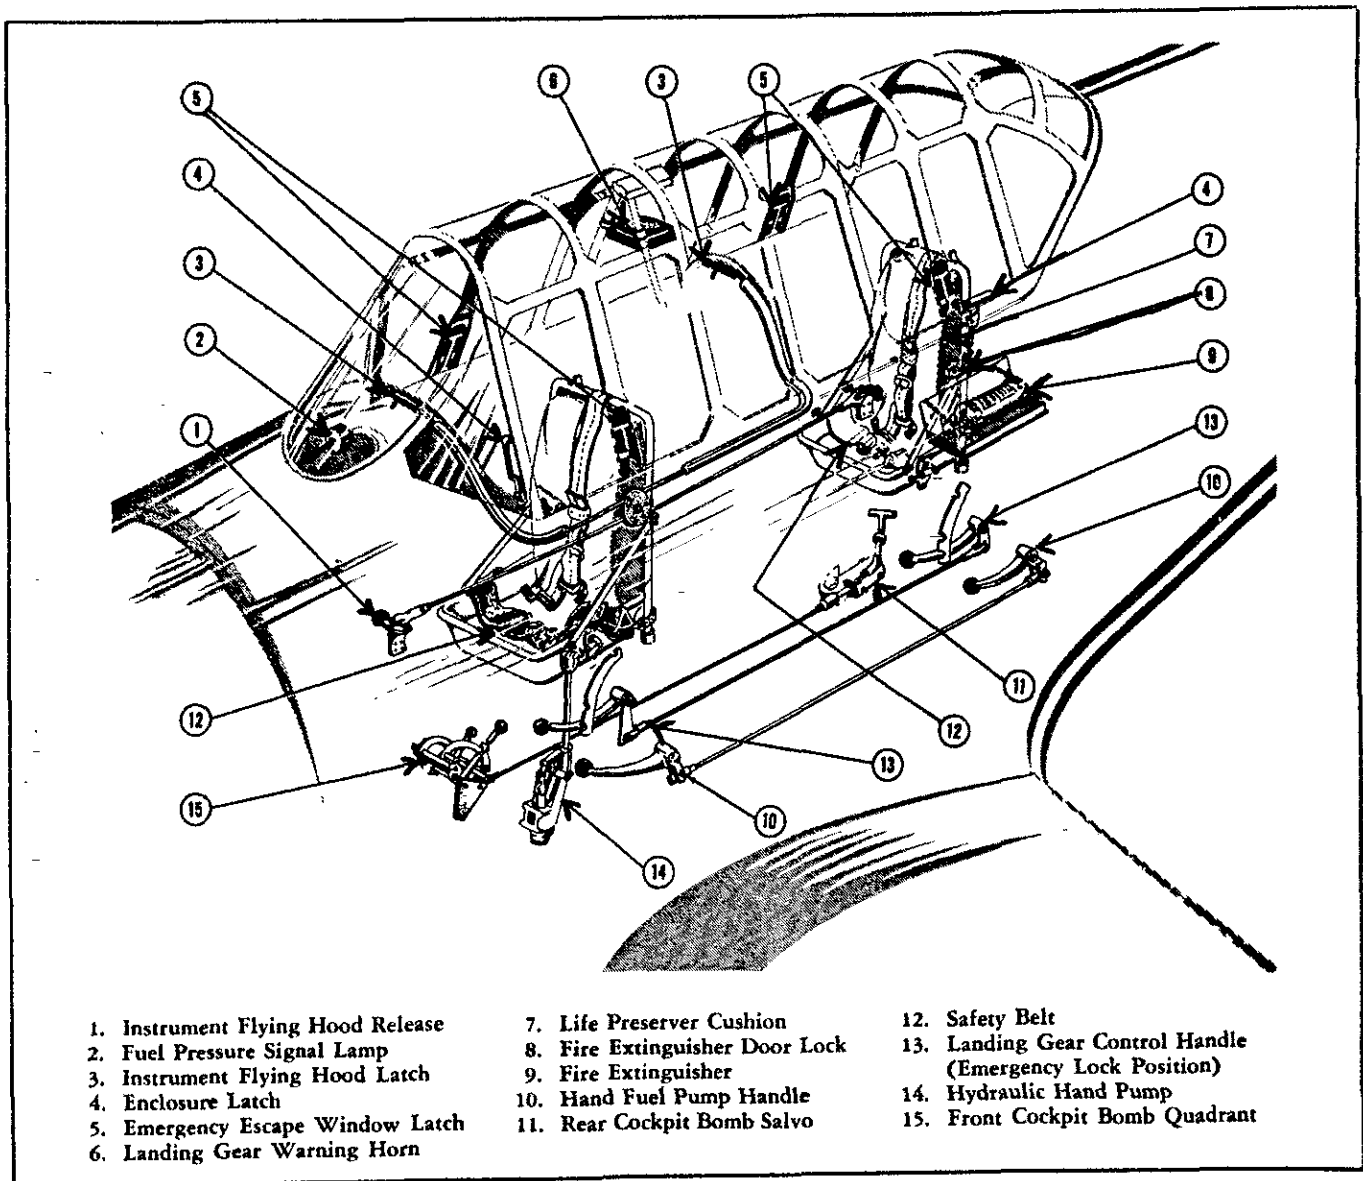

Figure 27 — Emergency Provisions
b. **EMERGENCY ESCAPE WINDOW.**—If the enclosure is inoperative, raise the red release lever at the bottom center of any side enclosure panel (5 figure 27), thus breaking the safety wire, and push the panel clear of the airplane. This should permit the enclosure to be opened easily. As a last resort, exit through the side window opening.
(1) To release the hood of the adjoining cockpit, push the control knob (1 figure 27) on the forward left side of the cockpit.
(2) To release the occupied cockpit hood, push the same control knob or push the lever extending from the latch assembly (3 figure 27) located on the left below the edge of the instrument panel shield.
The hydraulic hand pump (14 figure 27) located to the
- (1) Place the landing gear or flap selector lever in the desired position.
- (2) Raise the pump handle to the extended position; turn the pump handle clockwise until it locks, and start pumping.
b. COMPLETE HYDRAULIC FAILURE.—In the event of complete hydraulic system failure, the landing gear may be lowered by placing the landing gear control handle in the "DOWN" position and yawing the airplane. The force of gravity will pull the landing gear to the down position. Place the landing gear control in the "EMERGENCY" locking position (13 figure 27) when the indicator shows the gear fully extended. This will mechanically engage the down lockpins. Yaw the airplane again if difficulty in engaging the lockpins is encountered. Flaps cannot be operated in the event of complete hydraulic system failure.
Maintain fuel pressure by use of the hand fuel pump (10 figure 27) on the control shelf of each cockpit
in the event of engine fuel pump failure. Insufficient operation of the hand pump will be indicated by the fuel pressure warning light (2 figure 27). Maintain 3 to 4 lb/sq in. pressure to supply sufficient fuel to the engine.
(1) In order to salvo unarmed, place the bomb safety and nose fuse switches to "SAFE". Move the bomb arming lever of the quadrant to "SAFE". (See 15 figure 27.)
(2) Move the release lever to "SALVO".
b. REAR COCKPIT BOMB SALVO.—Pull the emergency salvo handle (11 figure 27). Bombs will drop either "ARMED" or "SAFE", according to the position of the switches on the front cockpit electrical control panel.